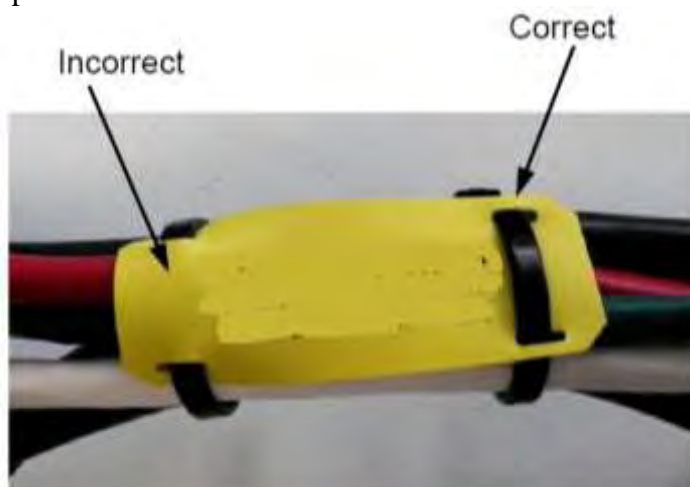

Figure 2
- (5) Install cable ties through holes in label as shown in Figure 2. Note correct positioning of cable ties in photo below.